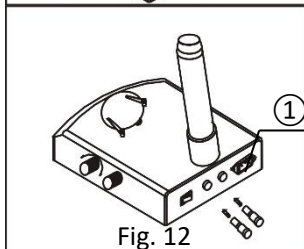

Fig. 12
- 1) Screw the fuse tube out with a screwdriver and then pull the fuse out of the tube ①.
- 2) Remove the fuse and mount it in an adverse way. (Fig. 12)